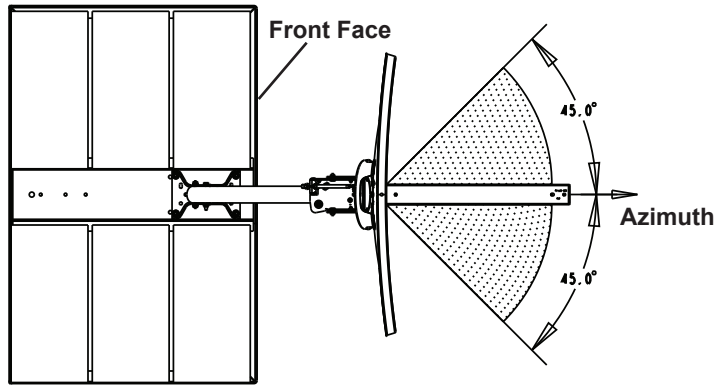

Figure 2
6. Using a compass, align the mast and antenna toward the satellite or azimuth position determined in step 1. The mount should be aligned to within 45 degrees of the azimuth. See Figure 2.